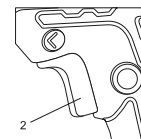

Fig. 2
1. To start drill, gently squeeze the trigger switch (#2 in Fig. 2). **NOTE:** The drill will turn at its slowest speed when the trigger switch is depressed slightly. The drill will turn at its fastest speed when the trigger switch is fully depressed.